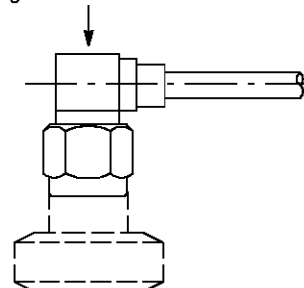

Figure 3
4. Insert the center conductor into the housing subassembly. See Figure 3, Detail A. Make sure that the conductor is positioned in the slot of the
contact inside the housing and the cable dielectric is against the contact. See Figure 3, Detail B.